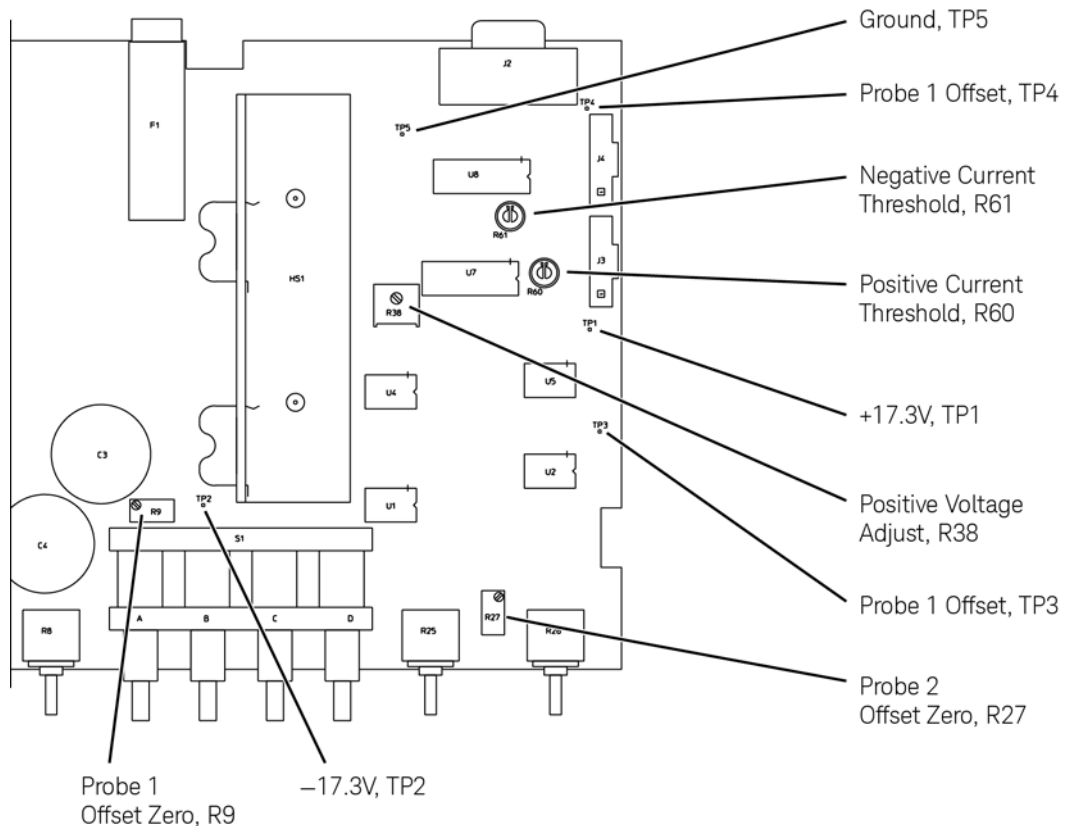

Figure 5 1143A Adjustment Locations
- 1 Connect the DVM between TP5 (ground) and TP1 (+17.3V). Refer to **Figure 5** on page 26.
This procedure sets the current limit of the supplies to approximately 330 mA for each supply. Refer to **Figure 5** on page 26 to find the test points and adjustments.
This procedure adjusts the probe offset drive current to zero when the offset is turned off. Refer to **Figure 5** on page 26 to find the test points and adjustments.